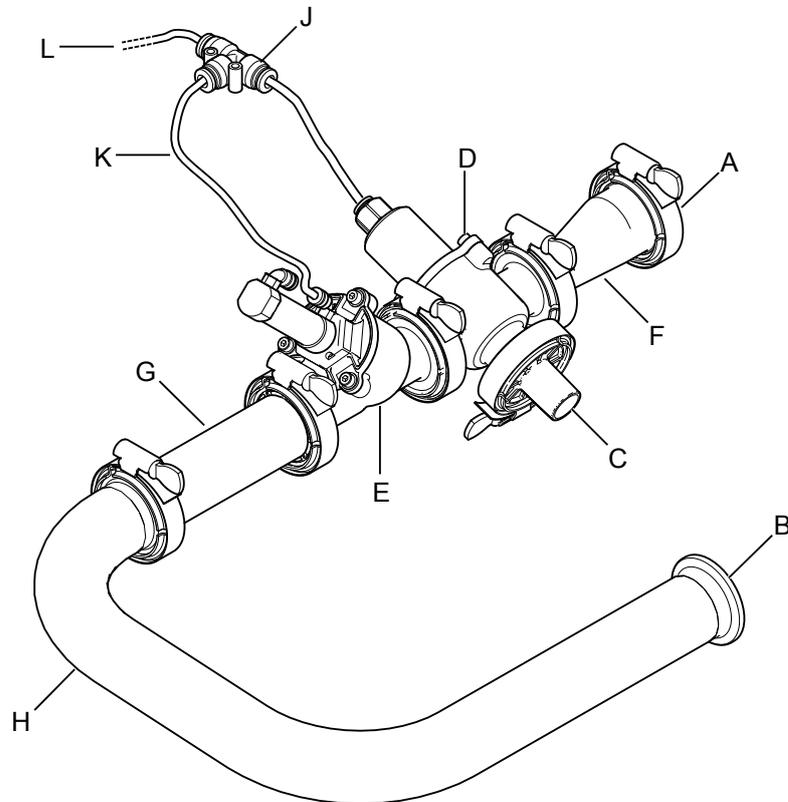

Fig. 1: Assembled parts of the calibration valve kit.
4. Connect the two valves (D) and (E) with a gasket (Ø25 mm) and a clamp. See Fig. 1.
5. Cut a 100 mm piece of tube (91724901) (G) and connect it to valve (E) with two nipples (Ø25 mm).
6. Connect pneumatic tubes (K) to both valves.
7. Connect both pneumatic tubes to a T-piece (J) and another, longer pneumatic tube (L).